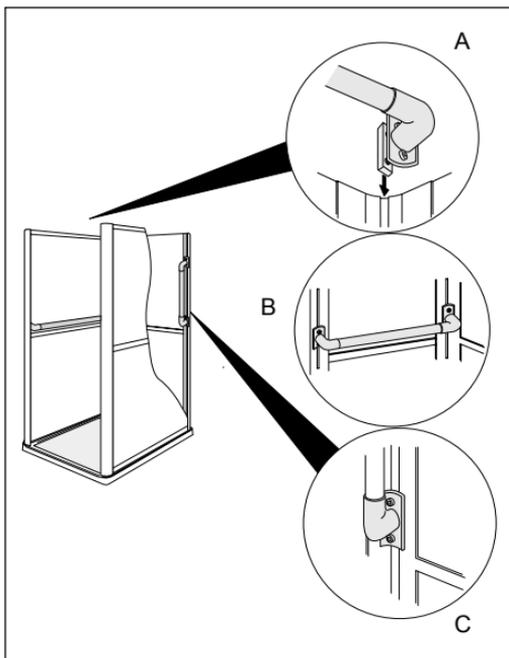

Fig 4.7
8. Fig 4.7 Position the grab rails into the factory fitted securing blocks. Secure via 2 M4x6mm screws provided (see inset).